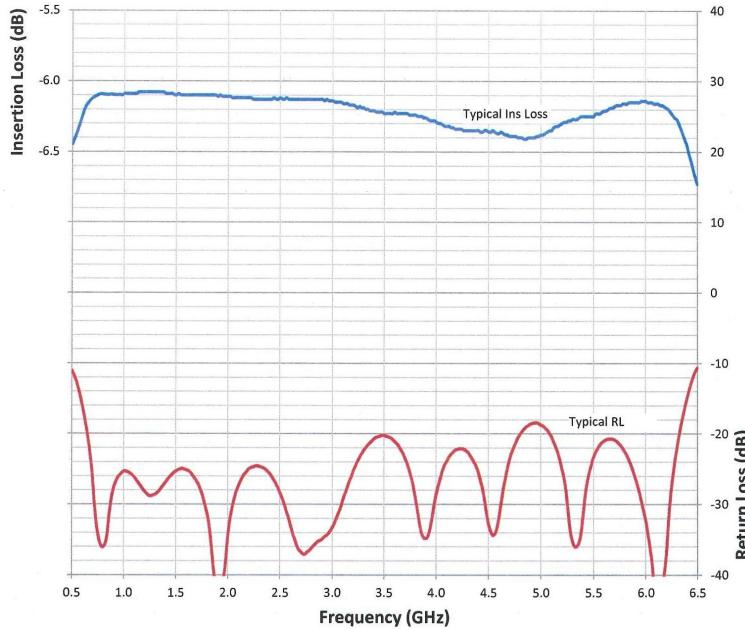

Figure 4-6. Typical 4-Way Combiner Insertion and Return Loss
6. A typical Four-Way Combiner insertion loss is shown in Figure 4-6; a typical combined port return loss is shown in Figure 4-6. The unused port must be terminated when checking the insertion loss.
NOTE: The return loss of the Four-Way Combiner's combined output port is typically better than 17 dB (See Figure 4-6).